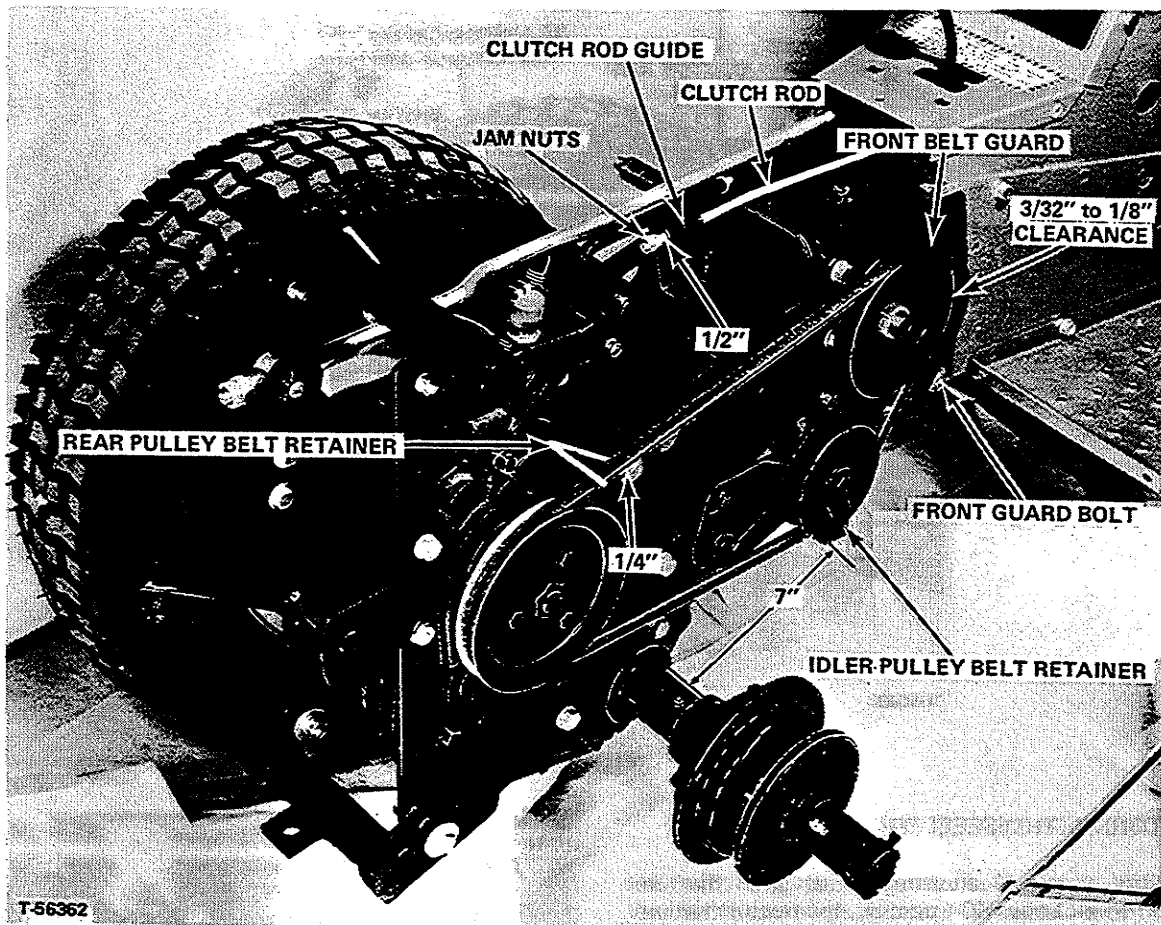

FIGURE 24
3. With clutch pedal up in engaged position adjust jam nuts on clutch rod $\frac{1}{2}$ inch away from clutch rod guide (Figure 24).
4. Rotate front belt guard around front guard bolt until guard has clearance of $\frac{3}{32}$ to $\frac{1}{8}$ inch to outside diameter of front pulley at the closest point. Be sure guard stays in proper location as front guard bolt is tightened (Figure 24).
5. Rotate the idler pulley belt retainer around pulley until rear edge of retainer is 7 inches from front side of axle shaft as shown in Figure 24. Securely tighten bolt through pulley hub.
6. Adjust rear pulley belt retainer to have $\frac{1}{4}$ inch clearance to top of belt (Figure 24).